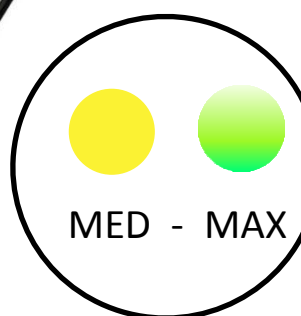

Fig. 12, 14
- Yellow LED lights up Fig.12 medium power